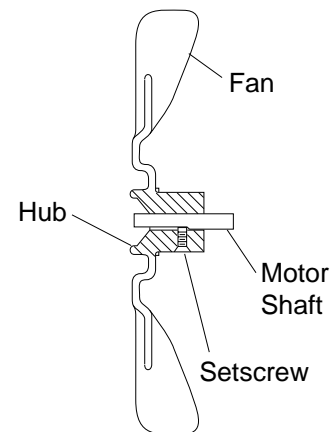

Figure 10 - Fan Cross Section
6. Replace fan on motor shaft. Make sure setscrew is touching back of flat surface on motor shaft (see Figure 10).